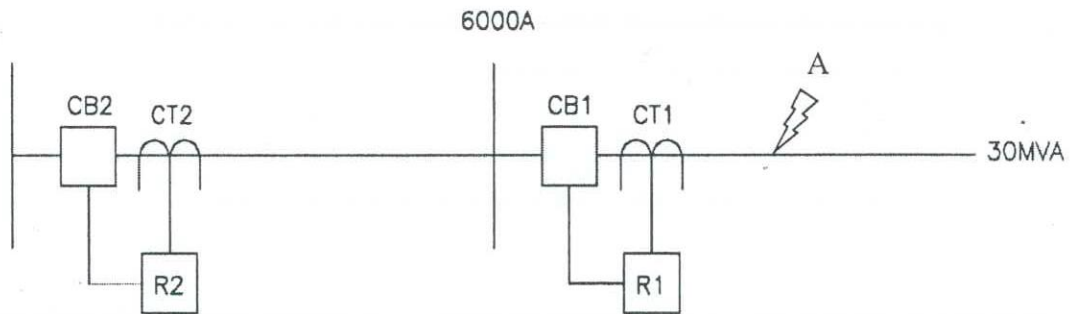

Figure Q1
- b) Figure Q1 shows an 11 kV power system. The feeder protection breaker CB1 is operated by a numerical relay with Standard Inverse (SI) overcurrent protection and an Instantaneous over current protection. The fault level at the location of CB1 is 6000 A. Strong faults (above 3000 A) will be cleared by the instantaneous overcurrent element of R1. Weaker faults towards the end of the feeder (equal to and less than 3000 A) will be cleared by the SI element of R1. The pickup current for R1 SI element must be set at 45 MVA (150% of the maximum load of 30 MVA). Rate CT1 for 45 MVA continuous load. Relay R2 is the backup to R1. It has SI element only. R2 SI element must be set at 60 MVA. Rate CT2 for 60 MVA continuous load. In addition, the following information is given for the system.